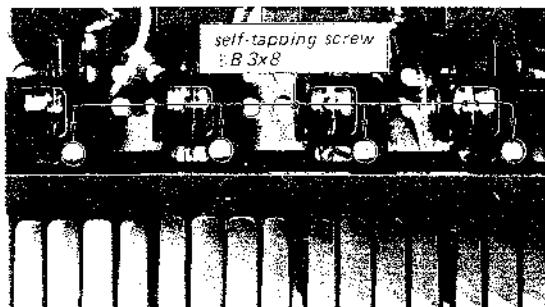

Fig. 2-7 Top heat sink removal
2. Remove the four self-tapping screws (#B 3x8) securing the top heat-sink bracket as shown in Fig. 2-7.